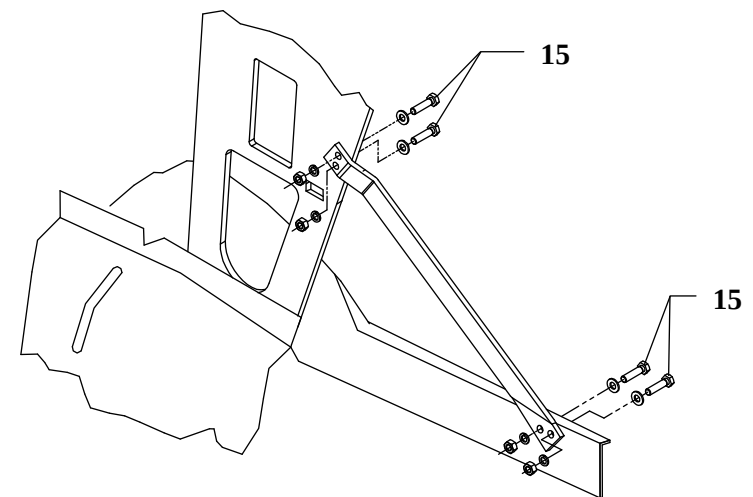

Fig. 4 Fix by M10x30mm bolts as shown in the figure. Similarly **install reinforcement on the left side.**
5. Fix reinforcements to bodywork and construction of a car using bolts M10x30mm (pos. 15) as shown in the figure 4.
6. Similarly install reinforcement pos. 8 on the left side inside the trunk.